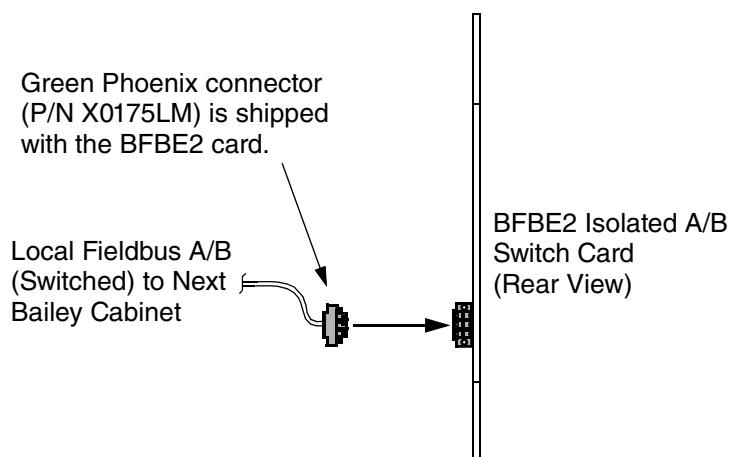

Figure E-3. Cable Connection at the BFBE2 Card
Cabling between the BFBE2 Isolated A/B Switch Card and the BFBI Fieldbus Isolator TCA in the remote Bailey cabinet is accomplished using the original twisted-pair or twinex cable, or Foxboro Fieldbus cable. (Refer to Table E-1 for cabling distance limitations.) Make the cable connection at the BFBE2 as shown in Figure E-3. The cable connectors (male and female) are shipped as part of the BFBE2 card.
- ◆ To make the cable connection to the BFBE2 Isolated A/B Switch card, refer to Figure E-3.